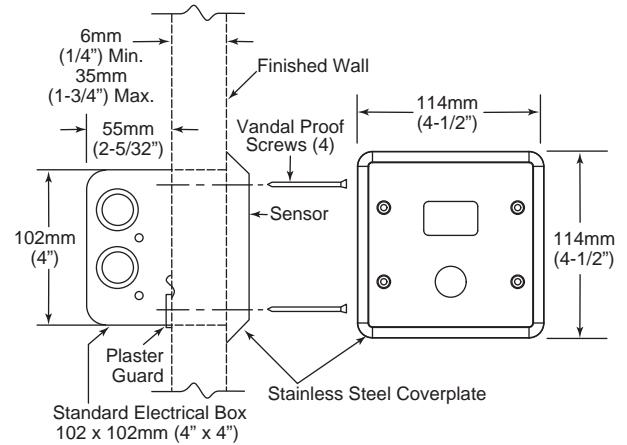

Fig. 1C
- Install and attach flush valve to water supply as per Fig.1C.